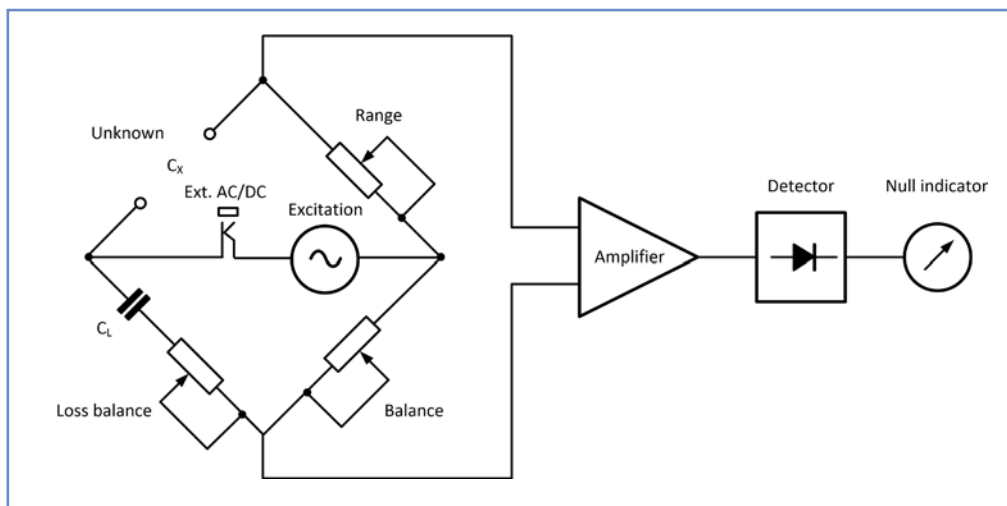
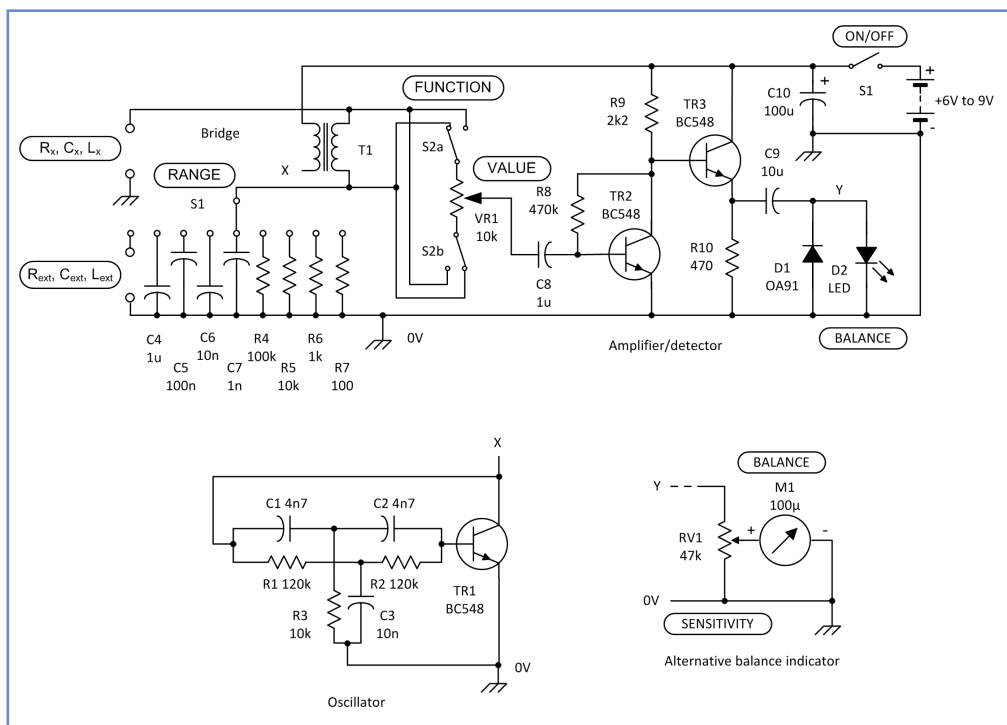

Fig. 4.3 Simplified arrangement of an AC bridge
Fig. 4.4 A simple AC bridge suitable for home construction (the bridge is calibrated using known components)
The capacitance (C) can be measured in various ways. The traditional method is by using an AC bridge arrangement, like that shown in Fig. 4.3. The bridge is adjusted for a null indication and in this condition, is said to be 'balanced'. In the balanced condition the value of resistance is read and interpolated from a calibrated scale. Note that it is possible to inject DC bias or make use of external AC excitation in Fig. 4.3. Modern bridges can be automated and use more sophisticated techniques to achieve balance over a very wide range of capacitance, inductance and resistance (as we shall see later). A simple bridge circuit, suitable for home construction, is shown in Fig. 4.4.